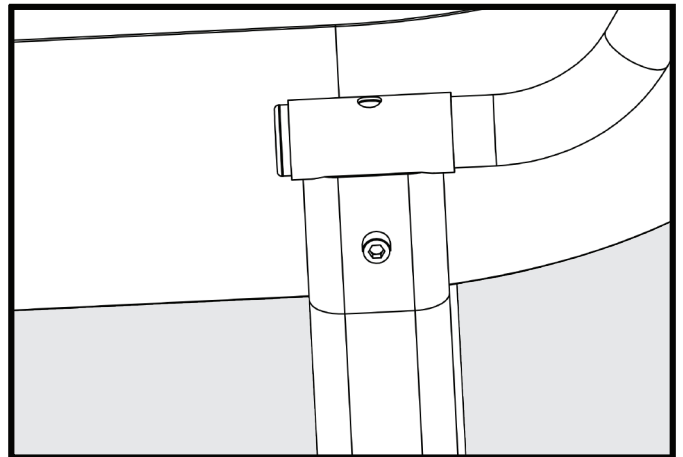

FIGURE 10
- Insert handle into both brackets on blower housing (Fig 10).